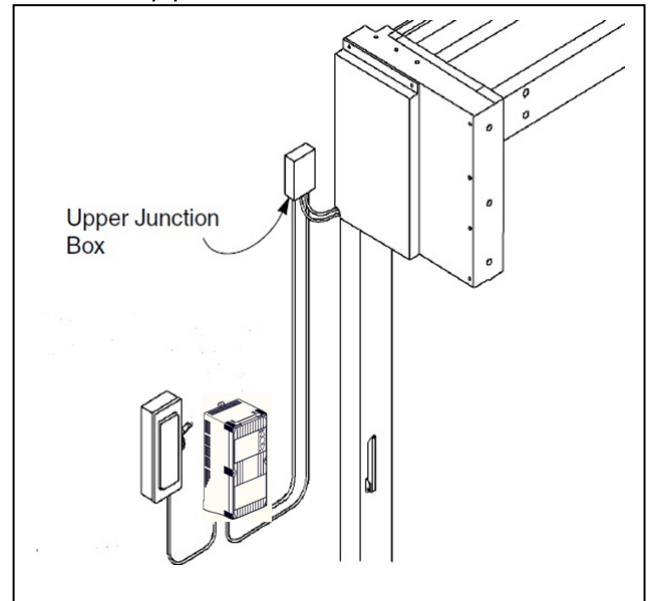

Figure 50
1. Route the drive motor/motor brake power cable, leading from the motor junction box, to the control panel. (See Figure 50.)